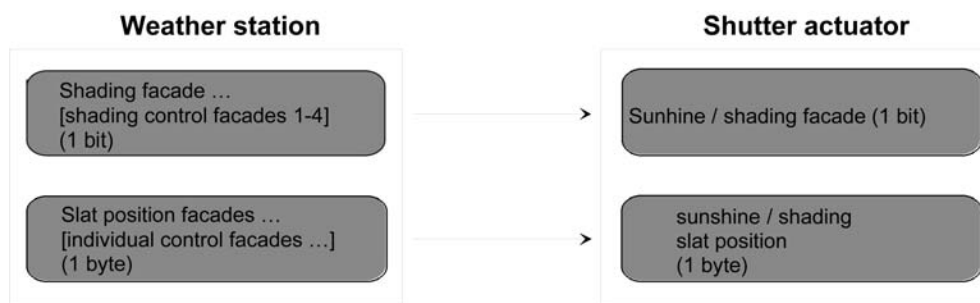

Figure 24: Programming of the communication objects for application example III
- fixed blind position setting.(Figure 24)